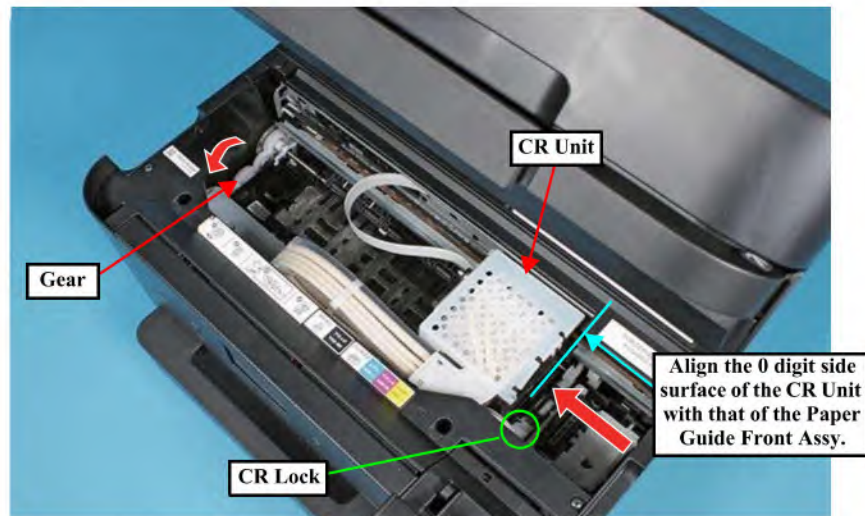

Figure 3-37. Releasing the CR Lock
- Make sure to work with the CR Unit positioned as shown in Figure 3-37.
10. Release the CR Lock and move the CR Unit to the center. (Figure 3-37)